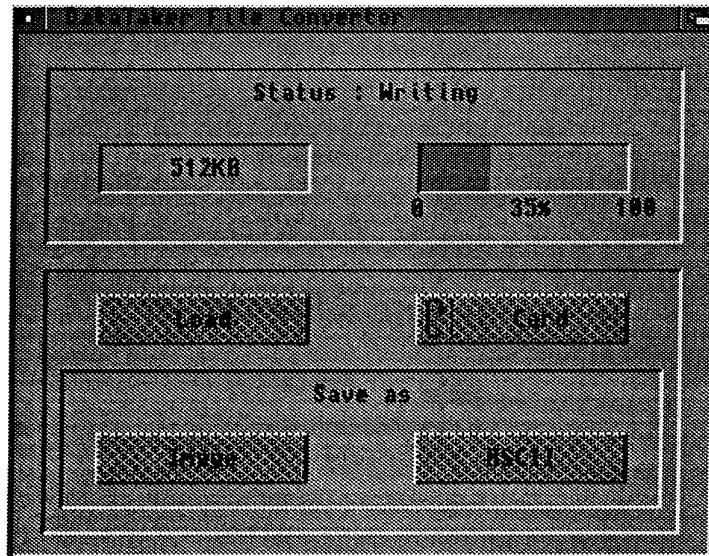

Figure 2. The Card Converter window while uploading data
The two gadgets available in the 'Save As' box permit the user to save the data on the PCMCIA card to disk as either a PCMCIA card image file or an ASCII file. During the transfer of data from PCMCIA card to disk a 'fuel gauge' will show the percentage complete. This may be seen in Figure 2.
7. Wait until the program has finished reading from the card	The program will display 'Status : Ready' when it has finished reading from the card. (Section 2.4, 2.4.1, Figure 2)
7. Wait until the program has finished reading from the card	The program will display 'Status : Ready' when it has finished reading from the card. (Section 2.4, 2.4.2, Figure 2)